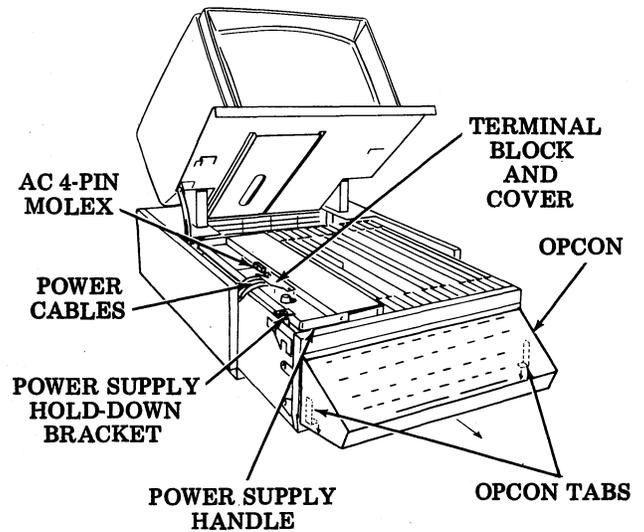

Fig. 16—Electronics Package Under Monitor
4.27 Lift the front of the electronics package slightly and pull forward to the stop. Do not lift the electronics package by the opcon (Fig. 16):
4.28 Remove the power supply by the following (Fig. 16):
4.29 Remove the opcon by pulling down on the tabs located on both sides under the opcon cover. After tabs are down in the unlatched position pull opcon forward, removing it (Fig. 16).